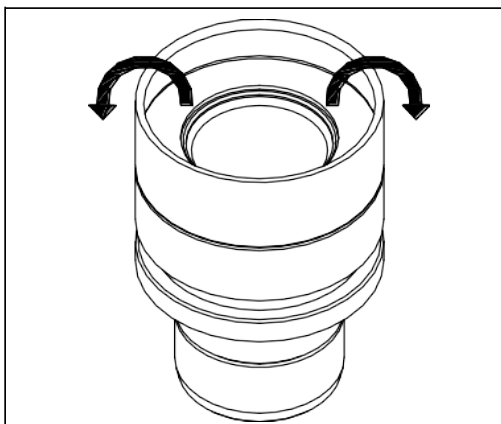

Fig.5
- When not wearing glasses, fold out the eye cups to prevent stray light. (See Fig.5)